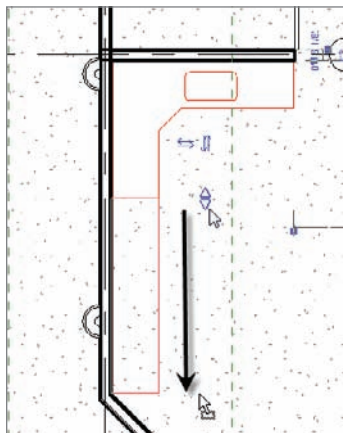

FIGURE 9.57 Lengthening the counter leg to meet the corner of the wall
9. Select the stretch arrows and stretch the leg of the counter to the end of the wall, as shown in Figure 9.57.